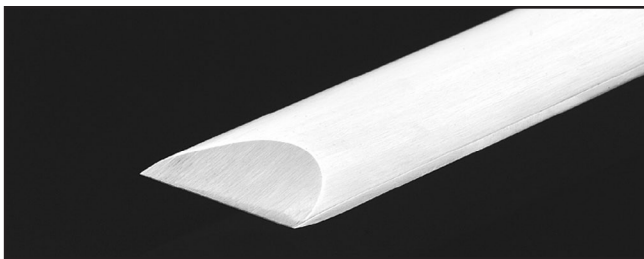

Figure 19. Skew chisel.
- **Skew Chisel**—A very versatile tool that can be used for planing, squaring, V-cutting, beading, and parting off. The skew chisel is flat, double-ground with one side higher than the other (usually at an angle of 20-40°). **Figure 19** shows an example of a skew chisel.